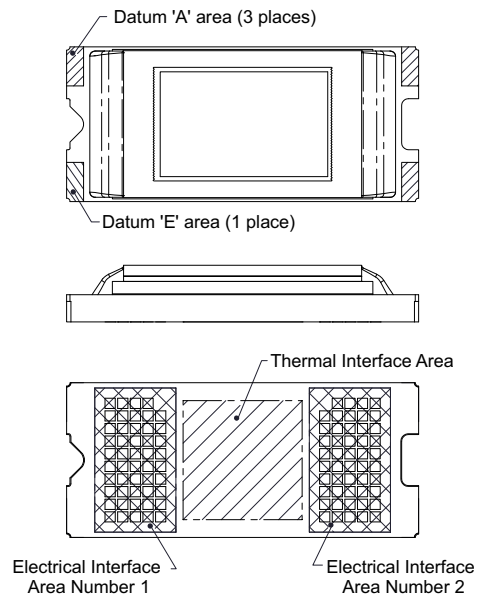

Figure 7-4. System Interface Loads for FQD
- (1) See Section 13 for diagrams.
(2) See Figure 7-4 for diagrams.
(3) See Mounting Concepts DLP4500FQE.
(4) See Mounting Concepts DLP4500FQD.